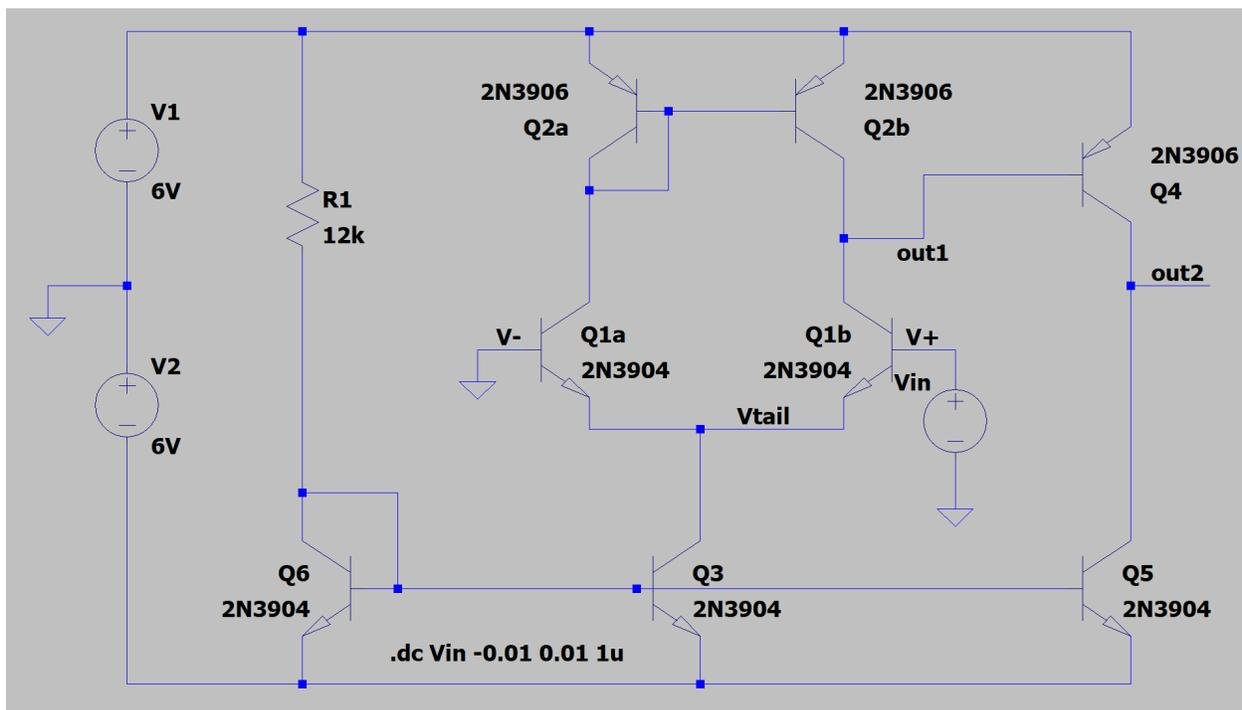

Figure 1: Lab 2 op amp (File: BJTopamp.asc)
- (1) **[Writeup]** Hand calculate, for $V_{in} = 0V$, the following values. One significant figure is fine, e.g. $I_{C6} = 1mA$ is close enough.
- (2) Use LTspice on the file BJTopamp.asc to run a DC sweep on the amplifier in Figure 1.
(1) Build the circuit in Figure 1
(2) Measurements